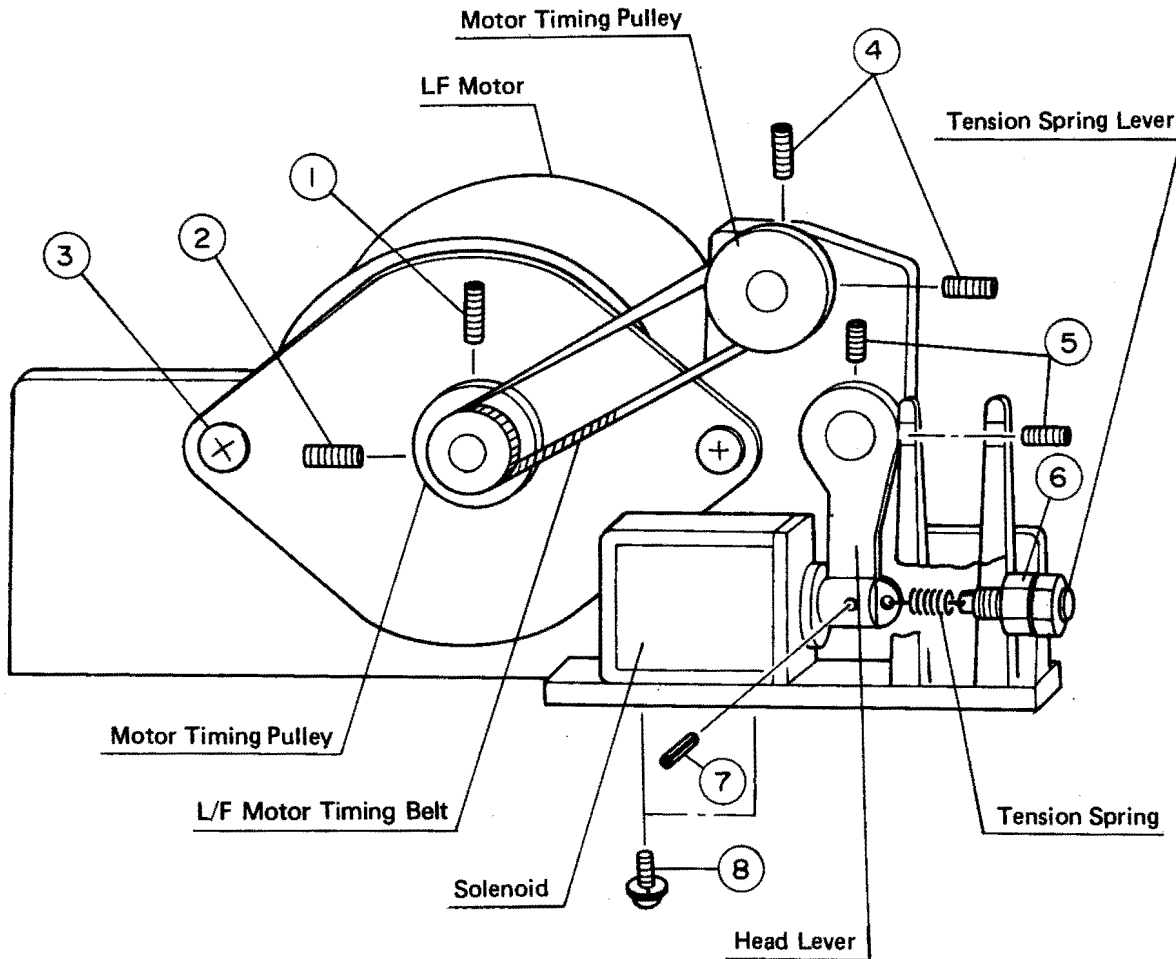

Figure 49.
Motor Timing Pulley should be installed 6 mm from the Motor face. (see Figures 49 & 50)
● Replacement of the Solenoid (Refer to Figure 49)
Adjust the Thermal Head pressure with the adjustment Nut ⑥. (Refer to Figure 49. Thermal Head Assembly Replacement.)